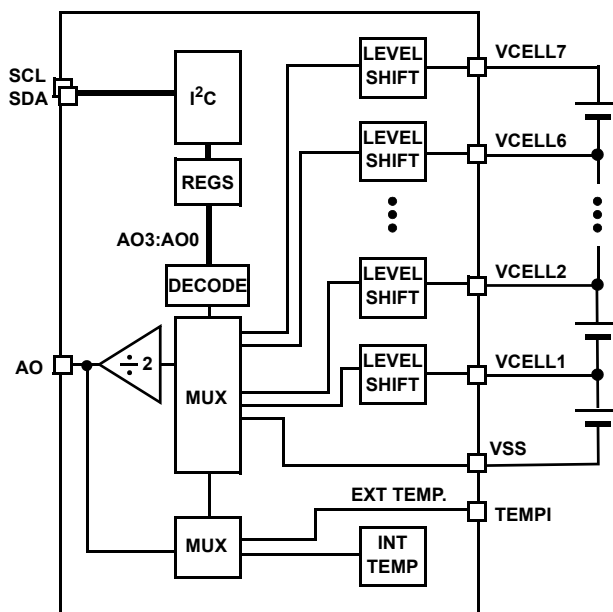

FIGURE 11. ANALOG OUTPUT MONITORING DIAGRAM
The ISL94208 devices can be used to externally monitor individual battery cell voltages and temperatures. Each quantity can be monitored at the analog output pin (AO). The desired voltage is selected using the I2C interface and the AO3:A00 bits. See Figure 11 and Table 5 on page 18. *Remember to reset the AO3:A00 bits to '0000' after measurements to minimize unnecessary current draw from the cells.*